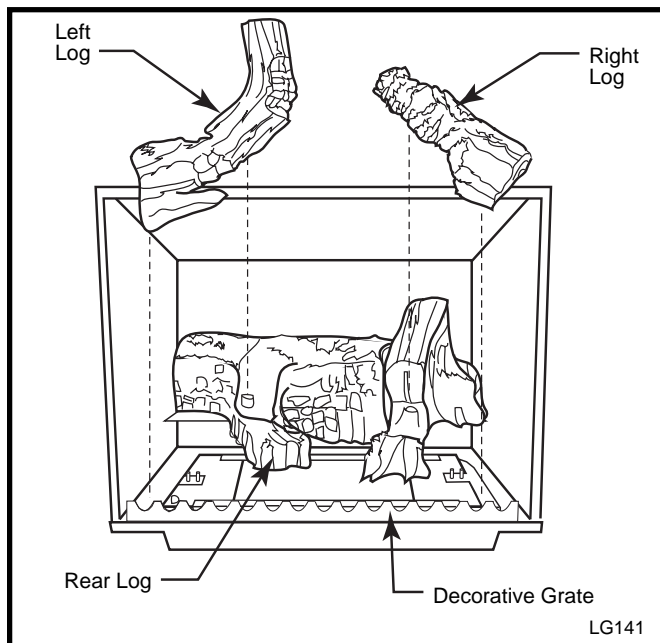

Fig. 40 Install the back, left and right logs.
2. Install the rear log centering it side to side on the sheet metal shelf at the back of the firebox. (Fig. 40) The log will touch both sides and the back wall of the firebox.
3. Install the right log by engaging hole on bottom with pin on the rear log. (Fig. 40) Then set right bottom side on the burner so the edge of the log touches the right side of the firebox. The right log does not use the locator pins on the burner to stay in place.
4. Install the left log by engaging hole on bottom with pin on rear log. (Fig. 40) Then set left bottom side on the burner so the edge of the log touches the left side of the firebox.